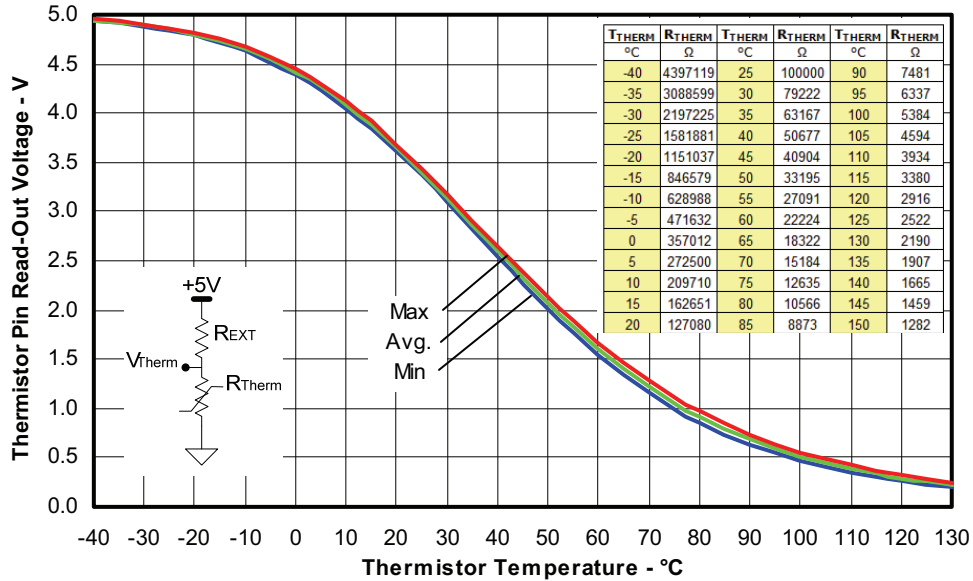

Figure 9. Thermistor Readout vs. Temperature (47kohm pull-up resistor, 5V) and Normal Thermistor Resistance values vs. Temperature Table.
3. Value of the boot-strap capacitors depends upon the switching frequency. Their selection should be made based on IR design tip DN 98-2a, application note AN-1044 or Figure 9. Bootstrap capacitor value must be selected to limit the power dissipation of the internal resistor in series with the VCC. (see maximum ratings Table on page 3).